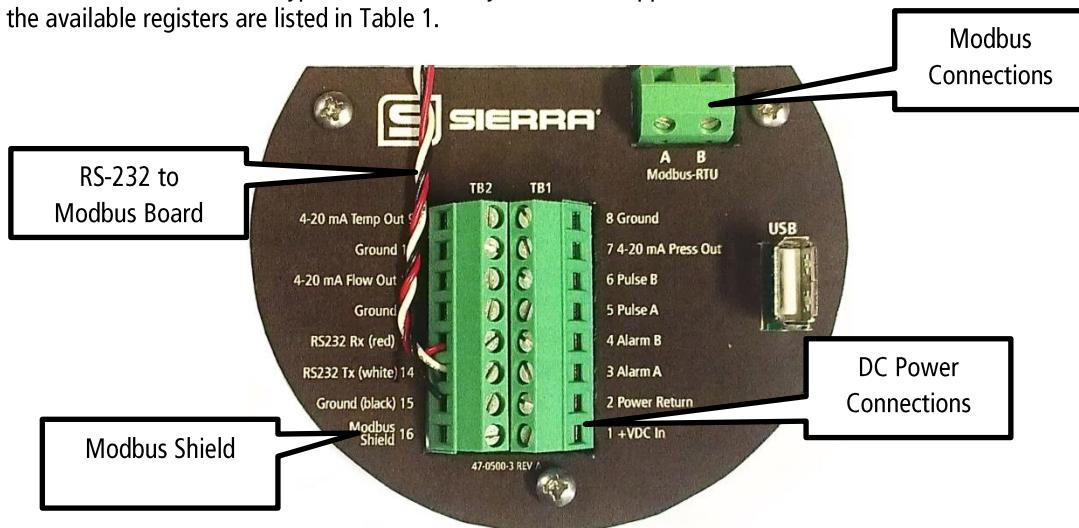

Figure 1: 640i/780i Terminal Board for Modbus Connection
1. Connect the flow meter to the A and B RS-485 network connections (see Figure 1).
3. Power-up the meter. Pin 1 +24 VDC and Pin 2 Power Rtn (see Figure 1).